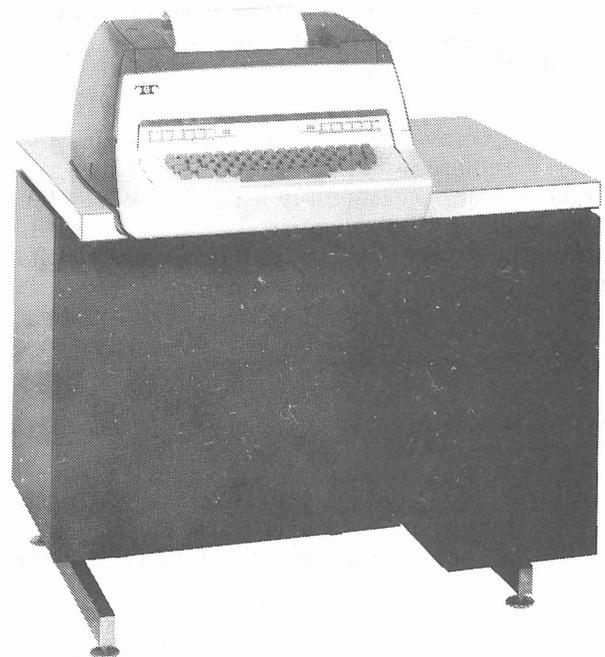

Figure 1 - 37 KSR Teletypewriter Set
1.01 This section provides a general installation procedure for the 37 Keyboard Send-Receive (KSR) Teletypewriter Set (Figure 1). Since this is a general revision and the previous issue did not receive general distribution, marginal arrows normally used to indicate changes or additions have been omitted. A station is a self-contained arrangement which is completely